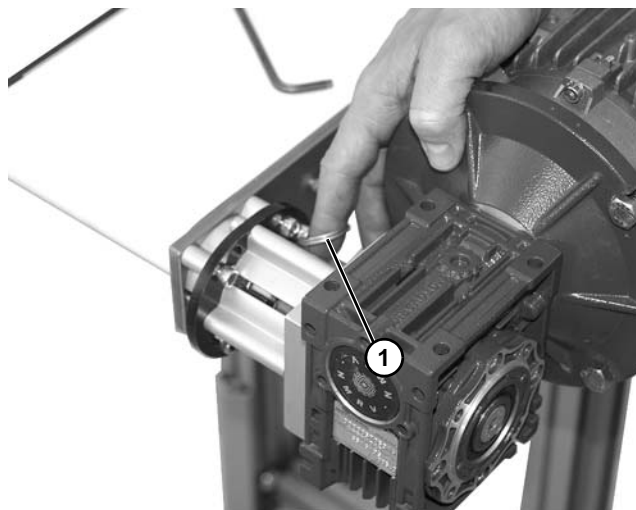

Figure 9
11. Install quick release pin (Figure 9, item 1).